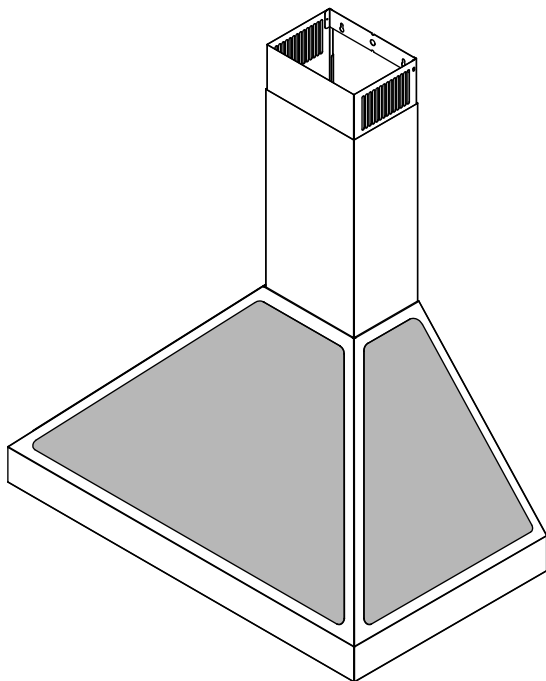

Fig.4
3.2. METAL ANTI-GREASE FILTERS (Fig. 4)
3.3. ACTIVATED CARBON FILTERS (Fig. 4)